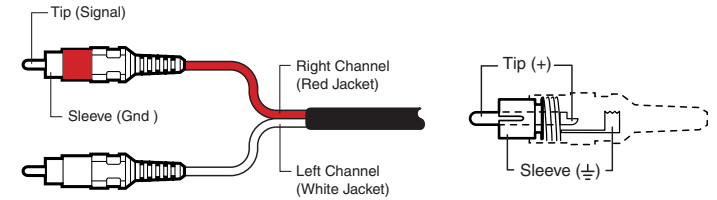

Figure 2-14 — RCA connector wiring
③ **Input Audio** — Plug an unbalanced stereo audio input into this pair, left and right, of female RCA connectors (figure 2-14).
- ⑫ **Output Audio** — Plug an audio device into this pair, left and right, of female RCA connectors (figure 2-14) for an unbalanced stereo audio signal.